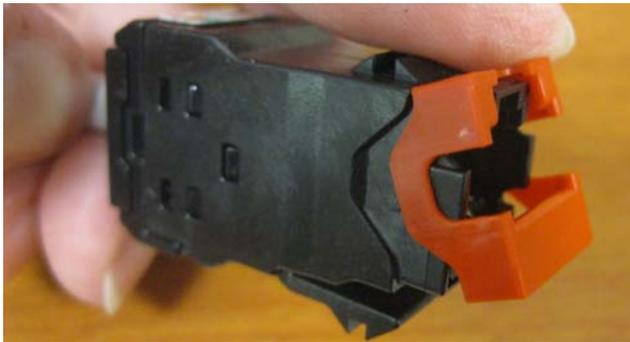

Figure 12
4. Position the replacement color cap on the back housing so that the top tab is oriented with the corresponding cut-out in the color cap. See Figure 12.